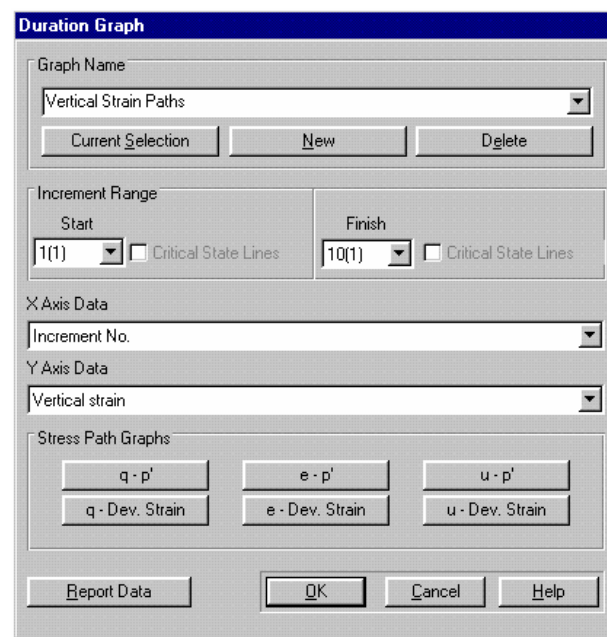

Figure 4-33: Setting Up A Duration Graph
- Step 6** Select 'Increment No.' as X Axis data and 'Vertical strain' as Y Axis data. The Duration Graph dialogue box should now look like Figure 4-33.